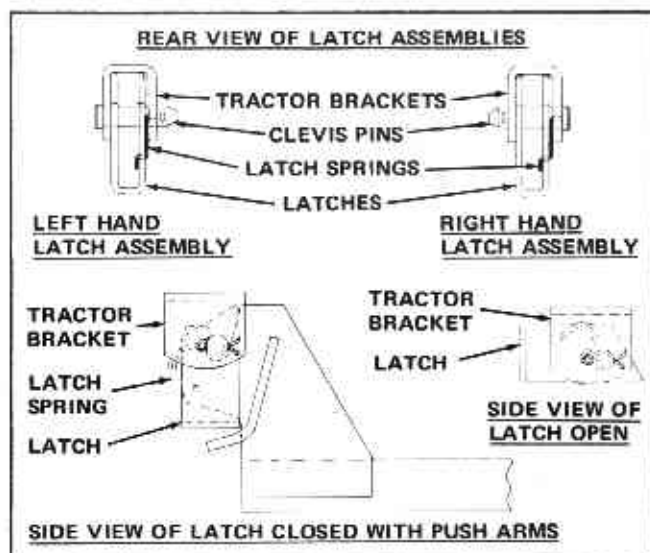

Figure 3
1. Install latch spring into the latch. The end of the spring with the two bends goes into the hole in the latch; see sketch figure 3. The end of the spring with the single bend goes into the tractor latch bracket; see figure 3.
3. Set latch in the open position; see figure 3.